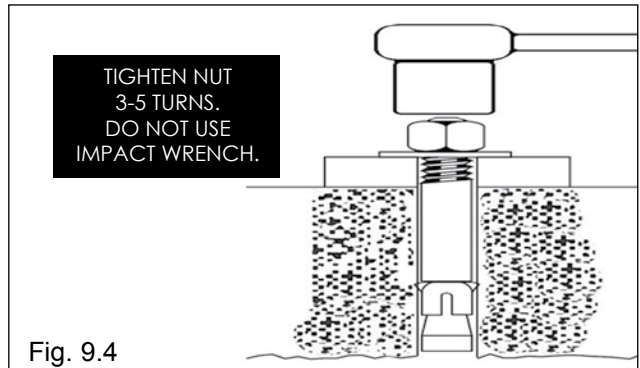

Fig. 9.4
5. Tighten the anchor bolts 2 or 3 turns using an open end wrench or manual ratchet only. **DO NOT** use an impact wrench to tighten concrete anchors. (See Fig 9.4)